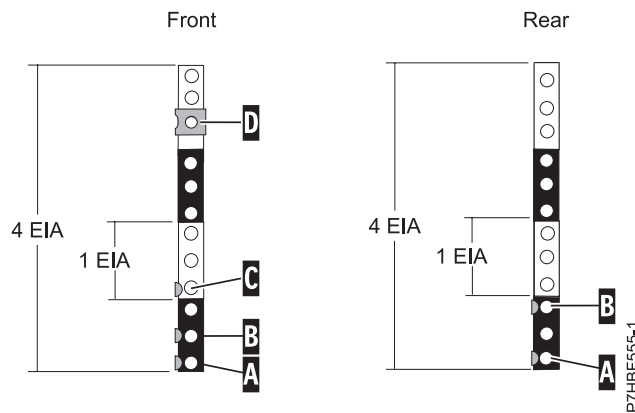

Figure 2. Marking holes on the front and rear of the rack frame
1. Facing the front of the rack and working from the right side, locate the bottom EIA unit that your expansion unit uses. Make a note of the EIA location. Use tape, a marker, or a pencil to mark the bottom hole of this EIA unit as **A**. Mark the rack so the mark can also be seen from the rear of the rack, as shown in Figure 2 on page 5.
2. Beginning with the hole identified by mark **A**, count up one hole and place a second mark as **B**. Mark the rack so the mark can also be seen from the rear of the rack, as shown in Figure 2.
3. Beginning with the hole identified by mark **B**, count up two holes and place a third mark as **C**, as shown in Figure 2.
7. Beginning with the hole identified by mark **A**, count up two holes and place a second mark as **B**, as shown in Figure 2.